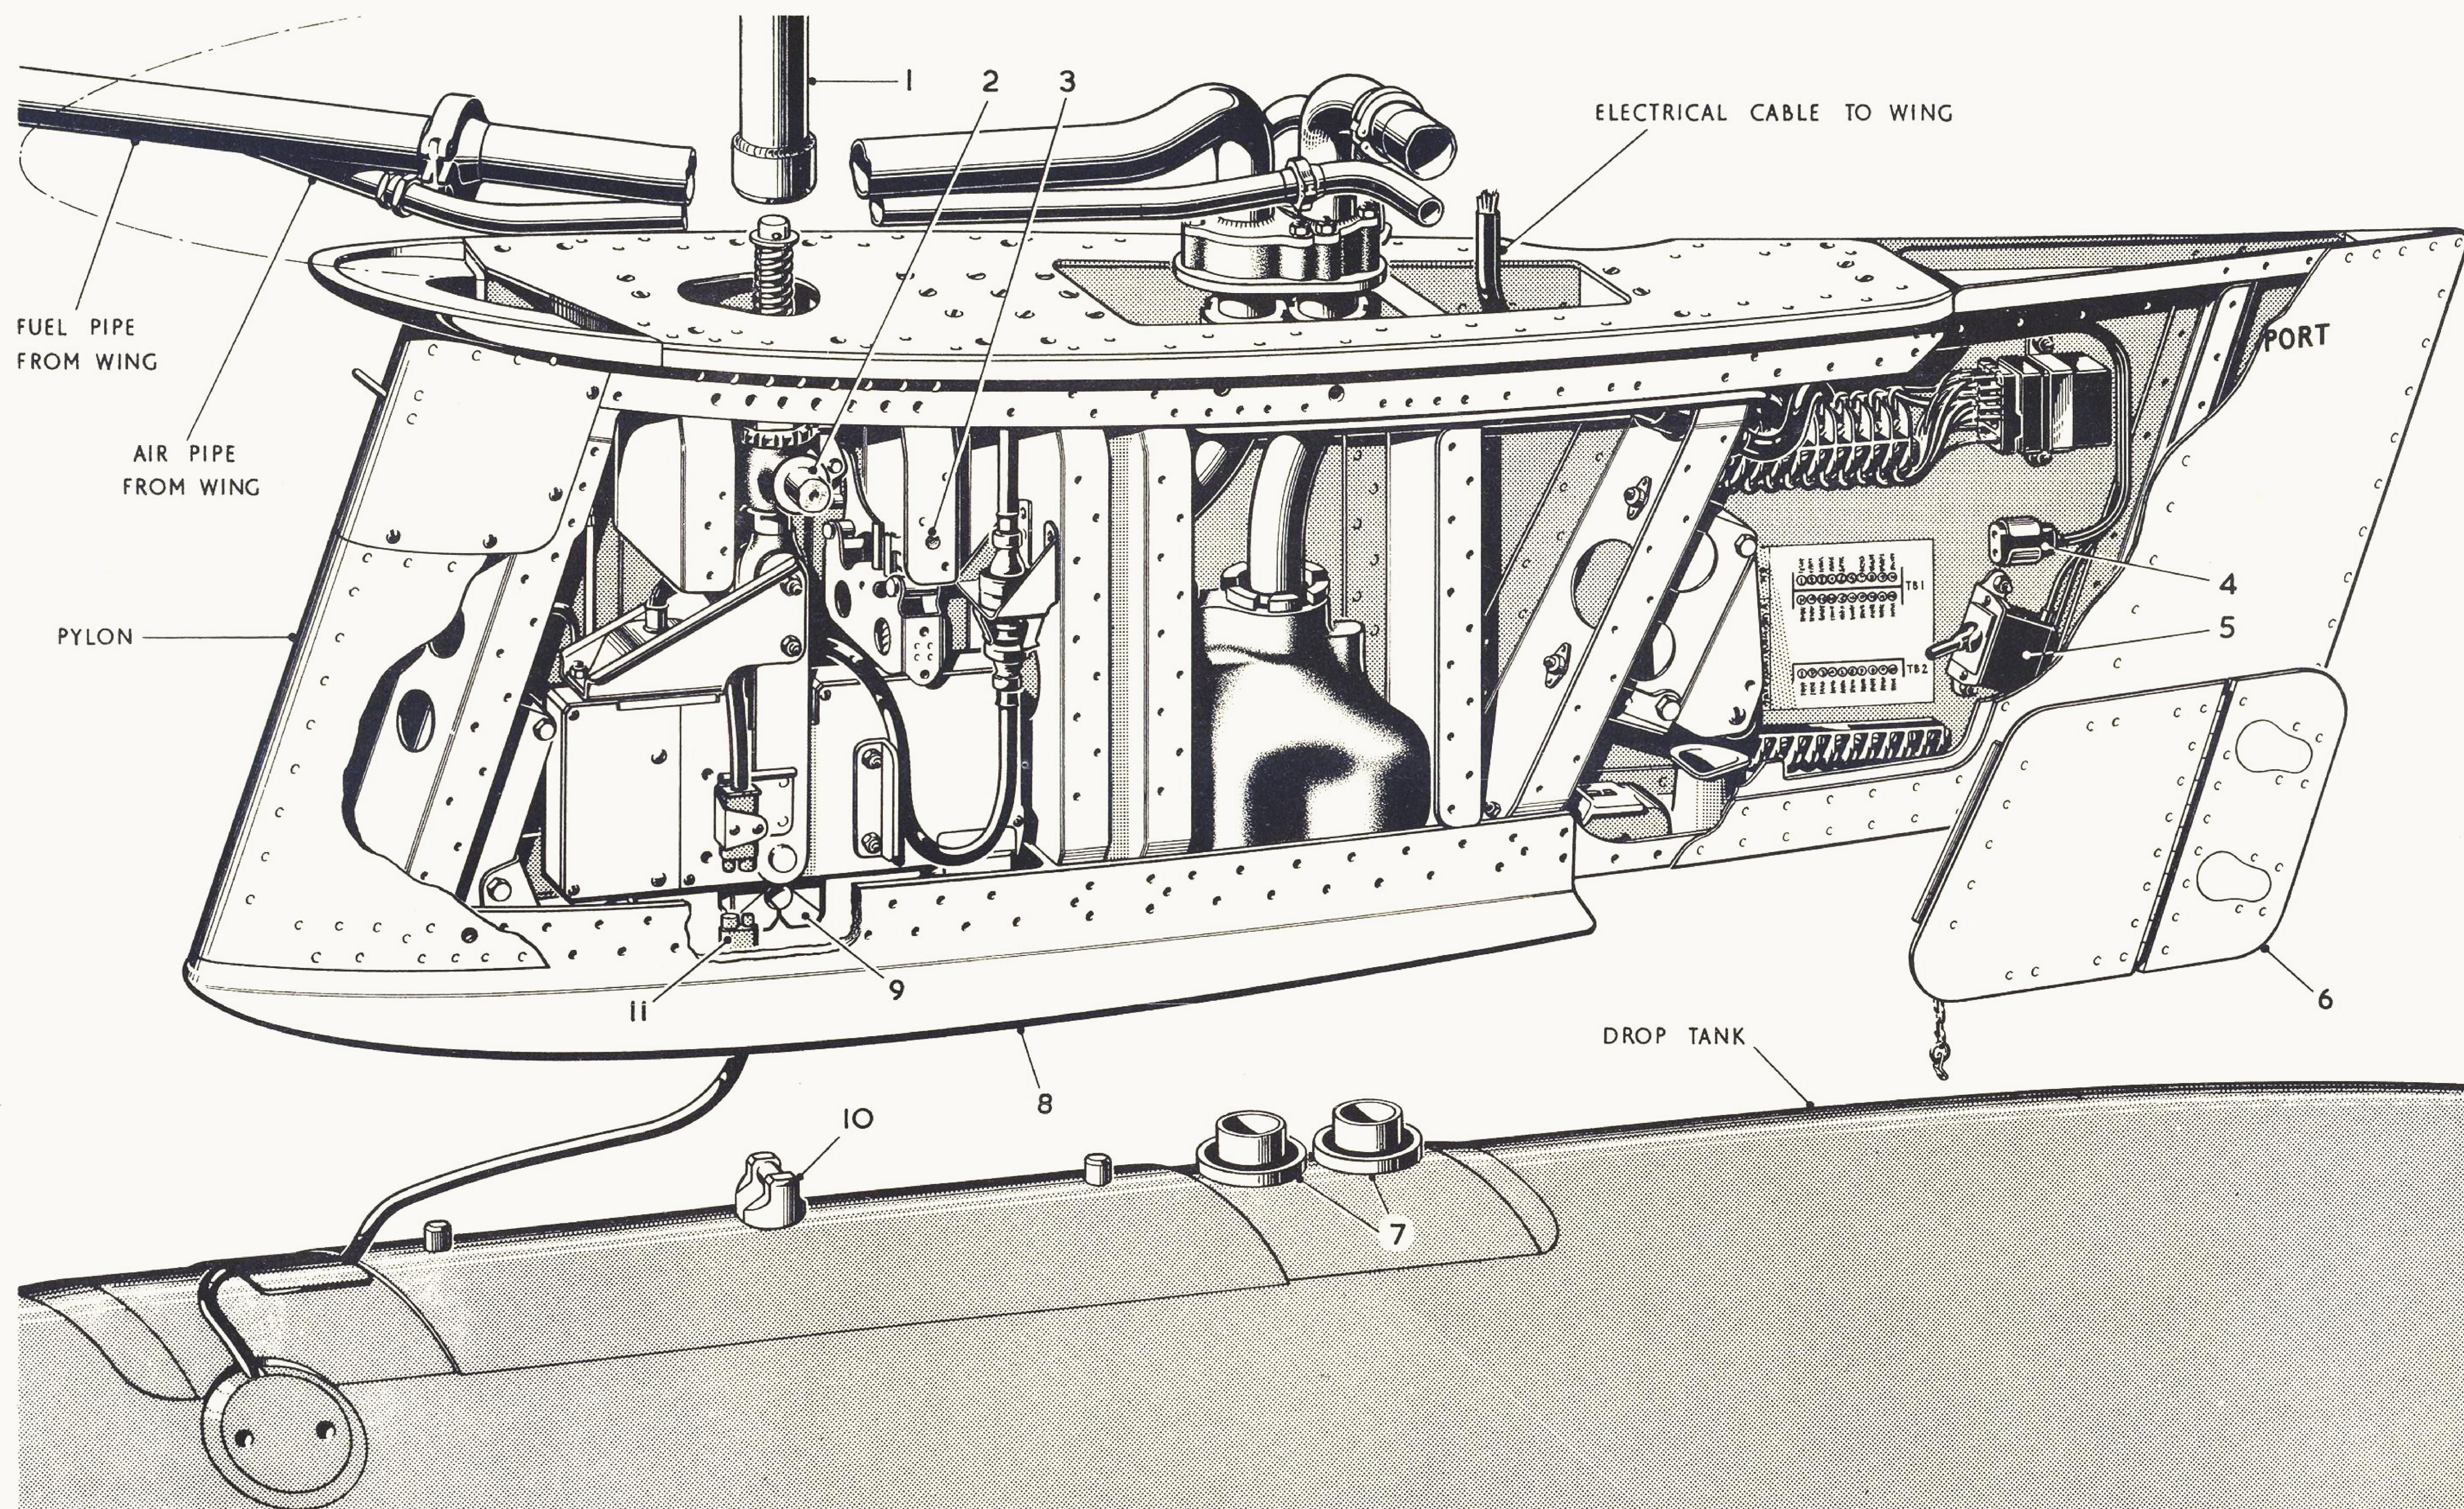
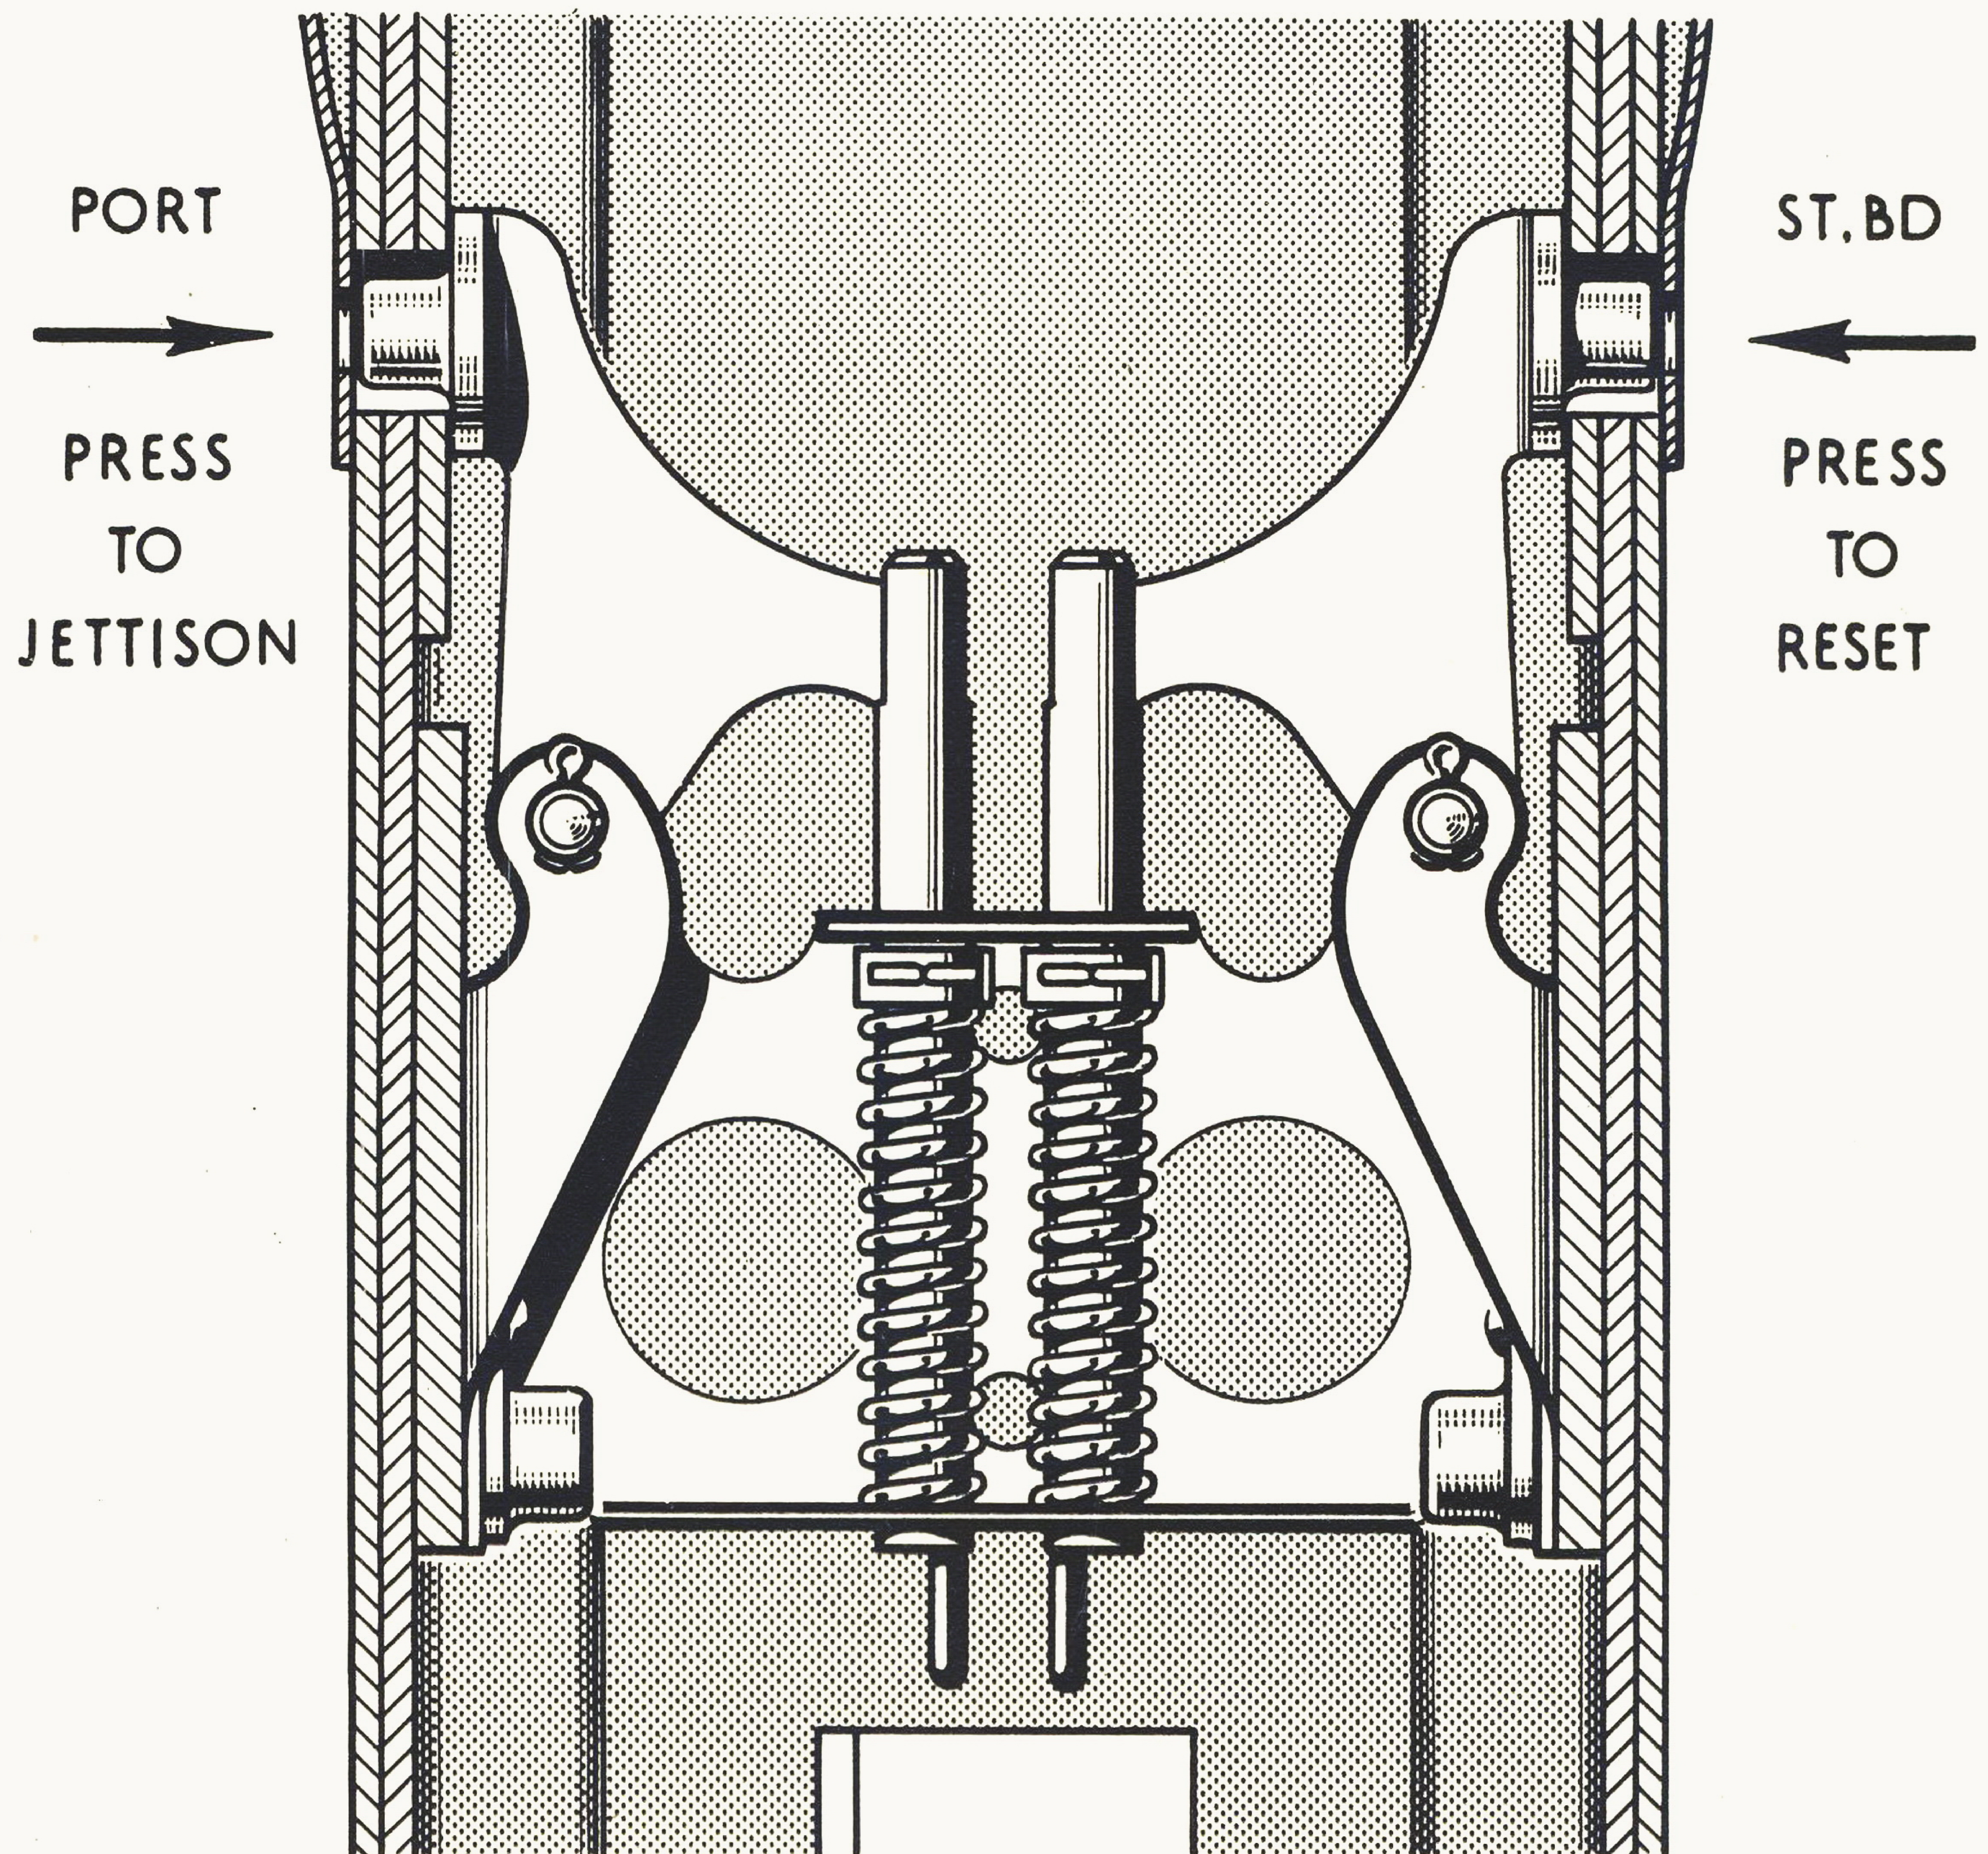

FIG. 3 FITTING DROP TANK
FIG. 4 JETTISON AND RESET
31. The procedure for fitting the drop fuel tanks, the sequence for which must be strictly adhered to, is illustrated in fig.3. The jettison and reset mechanism is illustrated in fig.4.
FITTING DROP TANK (Port described Stbd. similar) FIG.3.
2. Remove rear door (6) on outboard side of pylon and check that the change over switch (5) is in the DOWN position.
3. If the electro-mechanical release (9) is not open, press jettison button (3) shown also on fig.4, on port side of pylon and then reset by pressing the reset button on the stbd. side of pylon. (Should the electro-mechanical release be already open, only the reset button on the stbd. side should be used.)
4. Remove the access panel in the wing top skin and attach a crutching spanner (1) HAWKER Part No. B.204233 to the release housing support (2) and lower release housing.
5. Connect plug (11) on drop tank to socket in pylon.
6. Raise the tank until the tank lug (10) is engaged by electro-mechanical release (9).
7. Now, by means of the crutching spanner (1) raise the tank until the fore and aft spigots are engaged in the holes provided in the sole plate (8) and the tank adaptors (7) are making contact with the fuel and air valves in the valve body and check that the electrical cable from the tank to the plug (11) is not trapped between the tank and the sole plate.
9. Check that the release is fully locked by means of the cocking test socket (4).
11. Replace the rear door (6).
1. Support the drop tank and press the jettison button (3) and Fig.4, on the port side of pylon.